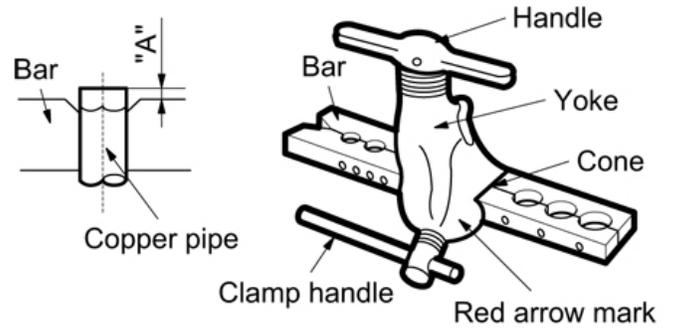

Fig. 20
- Sufficiently tighten the flare nut with fingers, and then tighten it with a spanner and torque wrench as shown in Fig. 20 & 21.